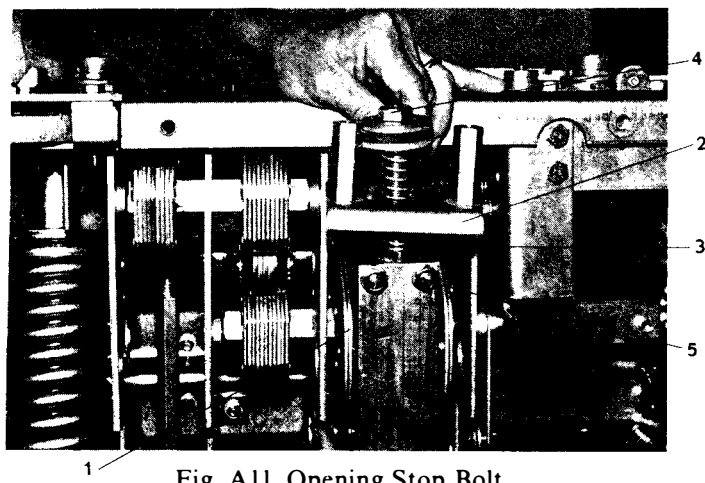

Fig. A11 Opening Stop Bolt
Remove the pin retaining rings from the three pins, (1) Fig. A11, connecting the horizontal connecting bar to breaker bell cranks. Remove the three bolts holding the stop bolt bracket, (2) Fig. A11, to the breaker side frame. Remove the Opening Stop Bolt from the horizontal connecting bar by backing off the locknut, (3) Fig. A11, and unscrewing the Opening Stop Bolt.